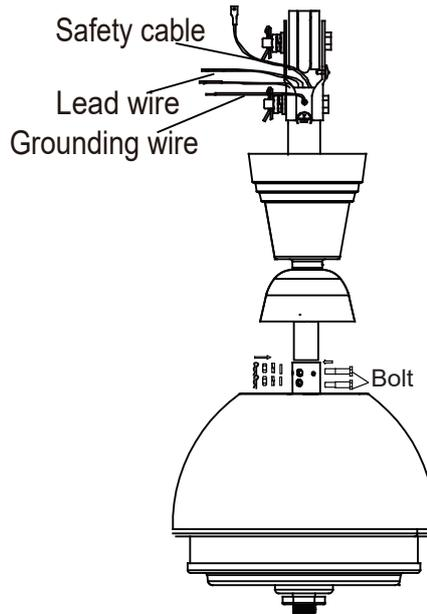

Fig.3
- 2) Insert downrod through canopy&yoke cover, Insert the down rod into the motor shaft, Thread wires and safety cable through downrod, Aligning the down rod holes to the holes of shaft. Tighten the down rod to motor with the previous bolt、washer、nut and connter pin (Fig.3)